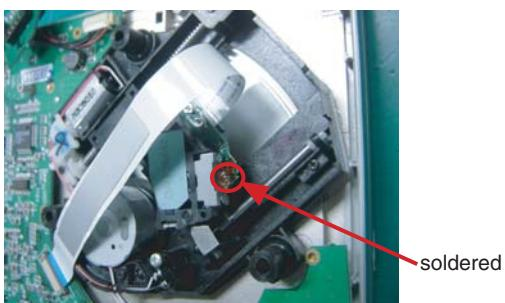

Fig.2
2. Soldered short pattern for laser diode as Fig.2